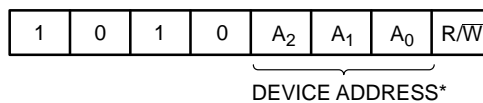

Figure 3. Slave Address Bits
The Master addresses a Slave by creating a START condition and then broadcasting an 8-bit Slave address. For the CAT24C64B, the first four bits of the Slave address are set to 1010 (Ah); the next three bits, A₂, A₁ and A₀, must match the logic state of the similarly named input pins. The devices in WLCSP 4–bumps respond only to the Slave Address with A₂ A₁ A₀ = 000. The R/\overline{W} bit tells the Slave whether the Master intends to read (1) or write (0) data (Figure 3).